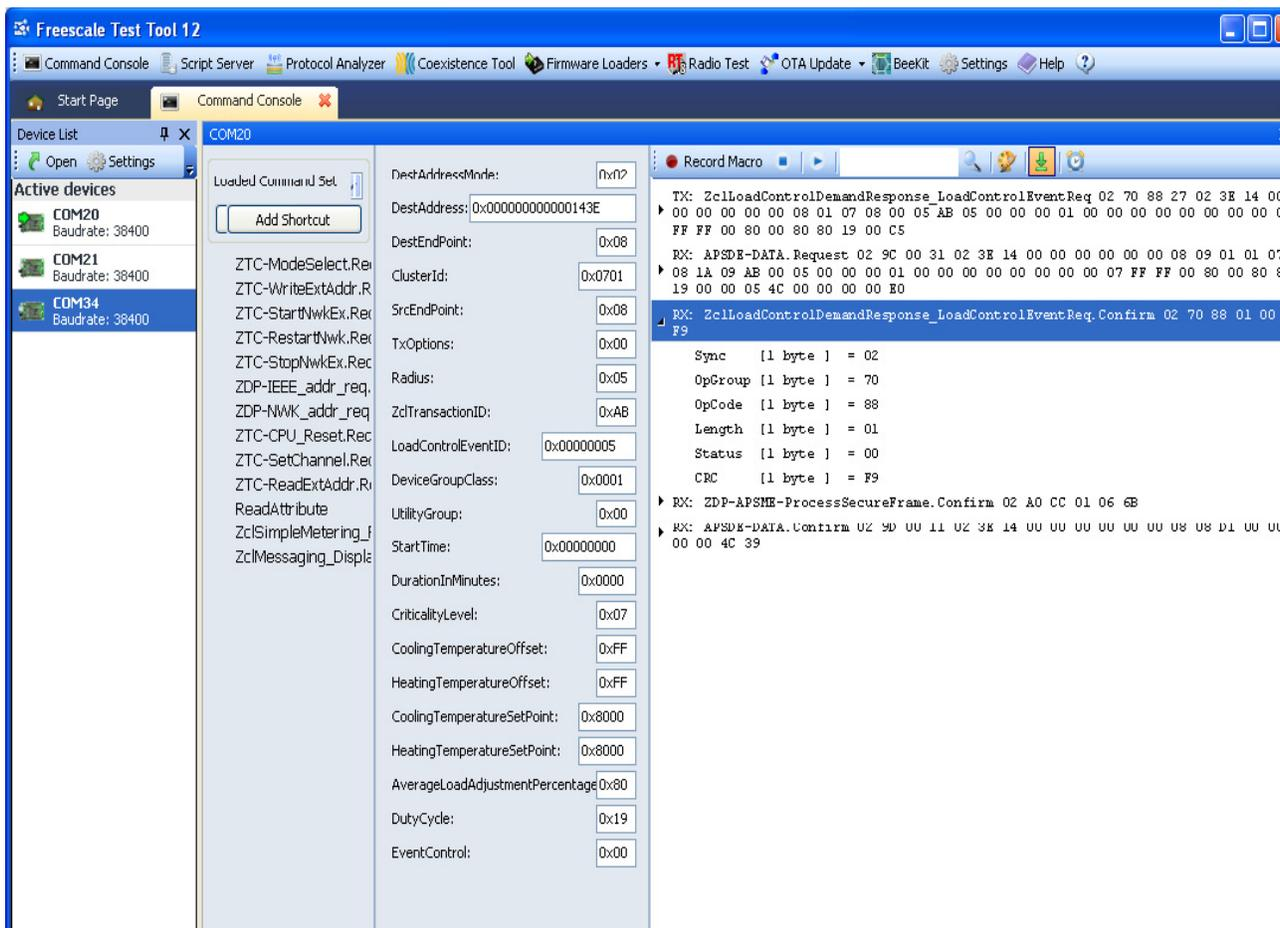

Figure 6-18. Load Control Event (Step 8)
8. From Test Tool, send a “Load Control Event request” with the field values as shown in Figure 6-18. This command specifies a load control event that starts immediately, has a duration of one minute and a duty cycle of 25% (0x19). The request is sent over the air from the ESI to the “Se PCT” node (short address is 0x143E) that acts as a Circulation device which sets the fan speed to one (25%).